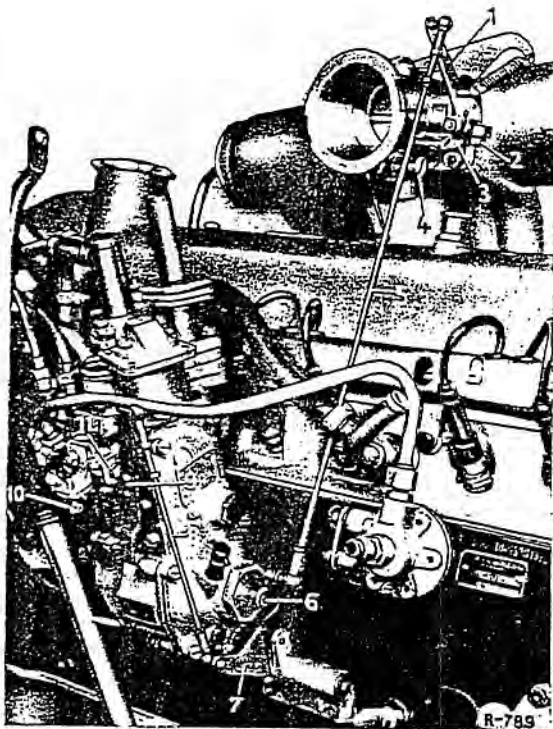

Fig. 00-16/15
It is possible to adjust the fuel-air mixture for the idle by means of the idle air throttle (4) on the venturi control unit and the spring-loaded idle control knob (6) on the injection pump in such a way that the engine runs smoothly and the desired speed is obtained (see Job No. 00-0 and Fig. 00-16/15). Incorrect composition of the mixture, in addition to causing an irregular idle, may also produce jerky running of the car at low speeds (between 20 and 40 km/h in fourth gear). See also Section "C. Readjustment of Speed Build-Up", b.
Caution! The spring-loaded idle control knob on the injection pump must only be operated when the engine is not running since the knob rotates as soon as it engages in the slot of the adjusting screw on the centrifugal governor (No. 5 in Fig. 00-16/15 and No. 10 b in Fig. 00-16/16).